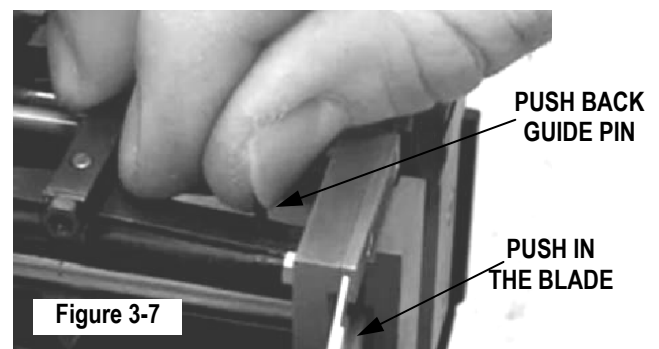

Figure 3-7
4. To Install new blades, push back the guide pin and slide in the blade until the blade clicks onto the guide pin. Make sure that the guide pins catch in the corresponding holes of the blades. See Figure 3-7.